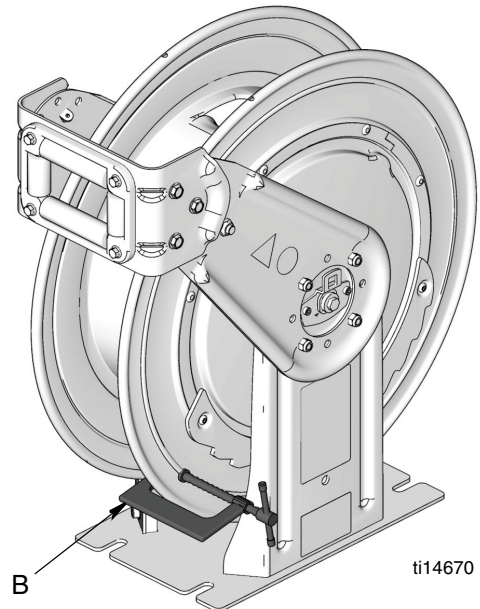

FIG. 4
4. Attach a C-Clamp (B) to the reel to help prevent the reel from unintentionally becoming unlatched and spinning freely (FIG. 4).
- Carefully remove the C-Clamp (B) (FIG. 4).